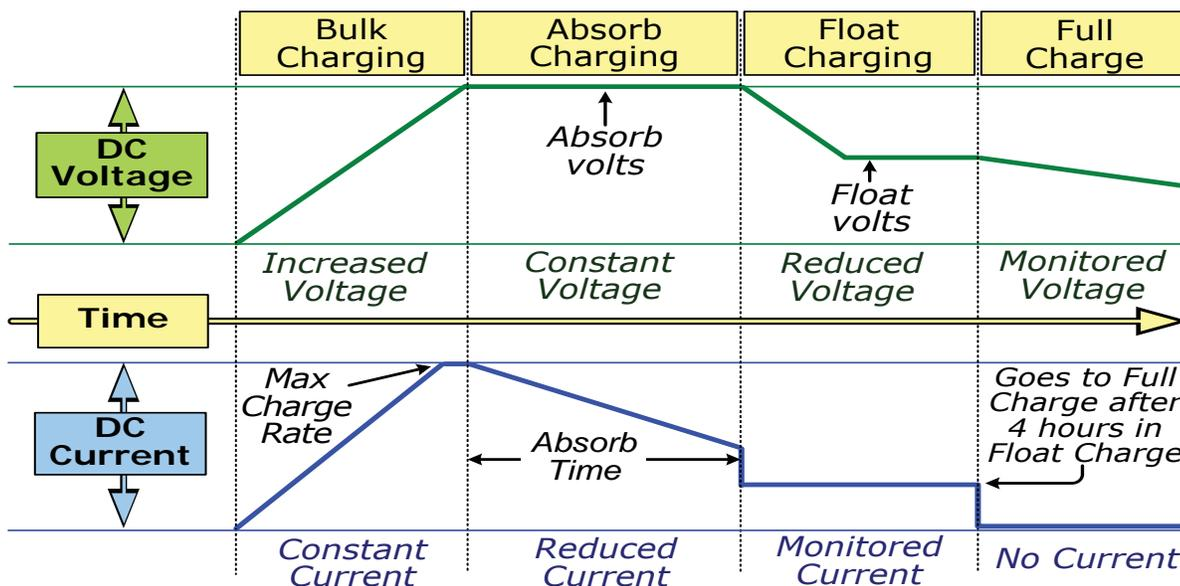

Figure 3-3, Automatic 4-Stage Charging Graph
The multi-stage charger in the ME Series can use up to five different charging stages to help monitor and keep the batteries healthy. The five stages include an automatic 4-stage charging process (see Figure 3-3)—Bulk, Absorb, Float, and Full Charge—and a manual Equalization (EQ) charge stage. The automatic 4-stage charge process provides complete recharging and monitoring of the batteries without damage due to overcharging. The EQ stage (requires a remote control to enable) can be used to stir up stratified electrolyte and to reverse any battery plate sulfation that may have occurred—if recommended by your battery’s manufacturer.
The Charge mode provides up to four separate charging stages: Bulk Charging, Absorb Charging, Float Charging, and Full Charge (see Figure 3-3).